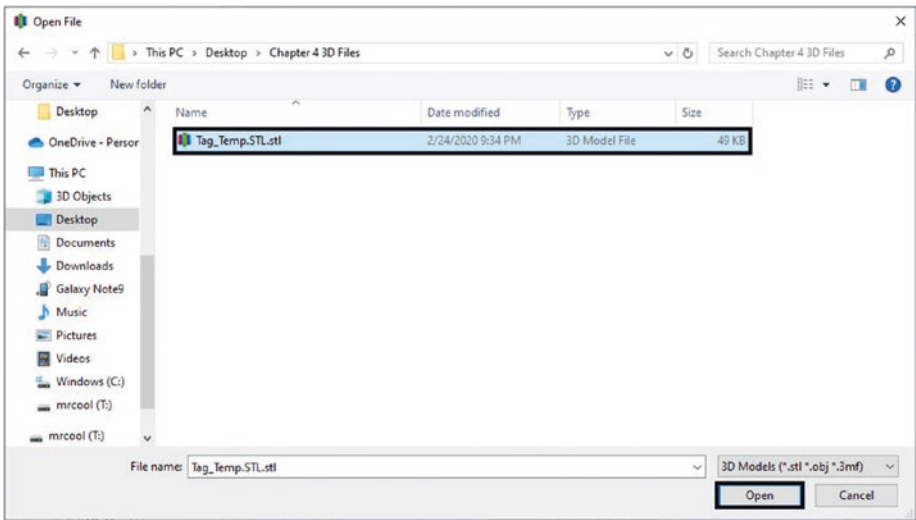

Figure 4-45. Select the STL file that was created by Fusion 360
6. Find the STL file you just created, select it, and then click the “Open” button. See Figure 4-45.